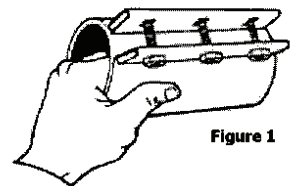

Figure 1
- To avoid slippage of the gasket, sleeve, and gasket protector (when used) always hold couplings as shown in Figure 1.